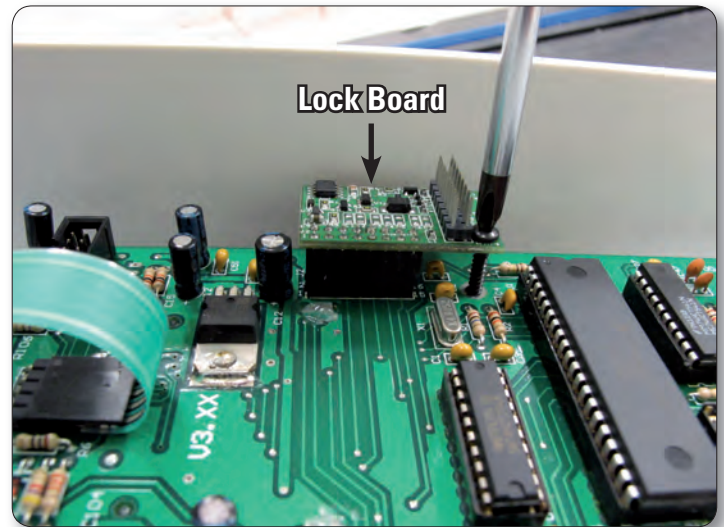

Figure 11
4. If the new C-Pod includes a Lock Board as shown in Figures 11 and 12, skip ahead to step 8.
5. Remove the black Phillips screw that holds the Lock Board in place on the old C-Pod circuit board (Figure 11).